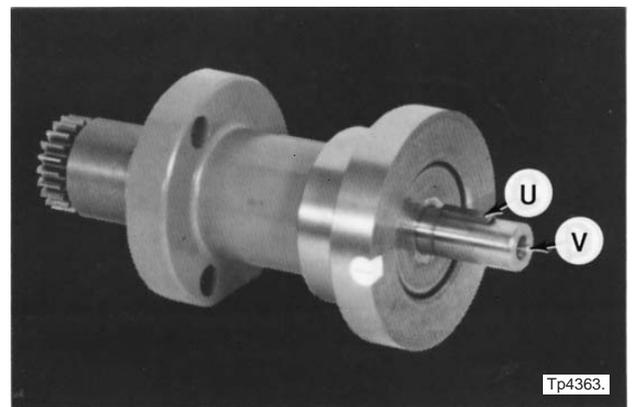

Figure 1.37 - Carriage Handwheel Components
4. Remove key "U", Figure 1.37 .
5. Remove shaft and 21 tooth gear "V", Figures 1.37 and 1.38 .
2. Replace shaft and 21 tooth gear "V", Figures 1.37 and 1.38 .
3. Replace key "U", Figure 1.37 .